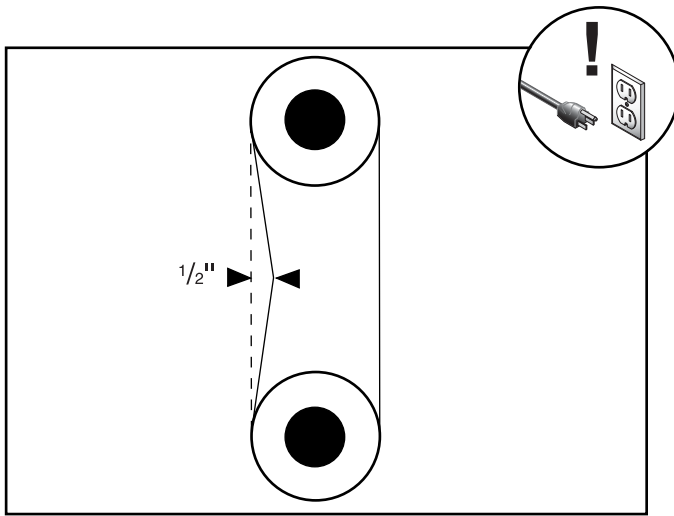

Figure 36. V-belt deflection.
3. Note the amount of deflection. Deflection should be approximately ½", similar to **Figure 36**.